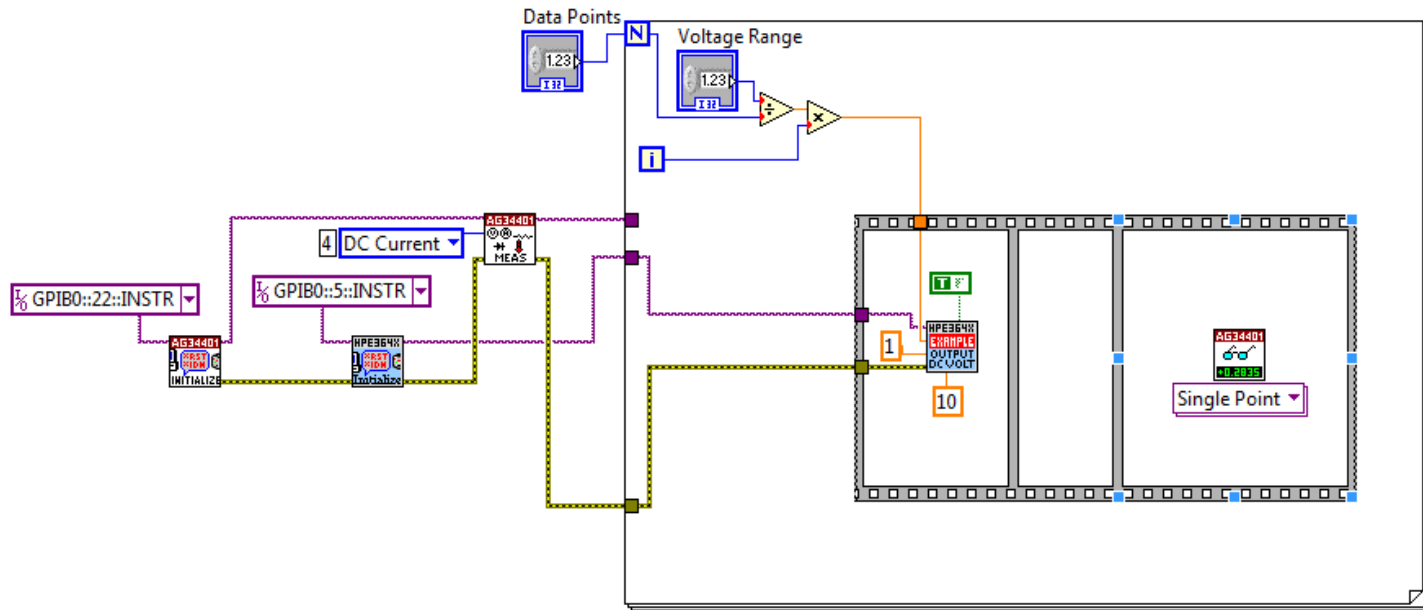

Figure 10. Diagram Schematic
- g. At this point your diagram should be similar to that shown in Figure 10